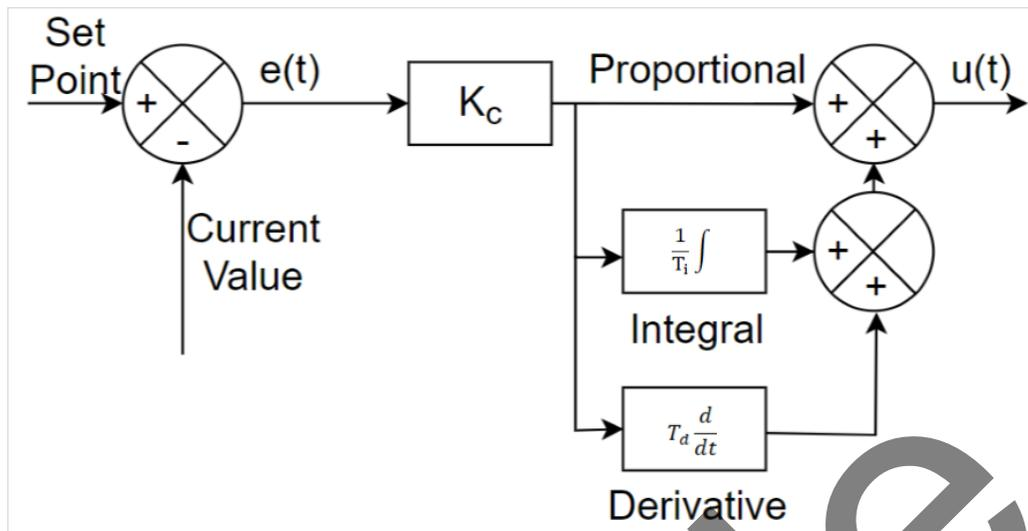

Fig.3.7: Noninteractive algorithm block diagram
**Noninteractive Algorithm** – The noninteractive algorithm calculates the derivative and integral values in parallel, shown in Fig.3.7 below.